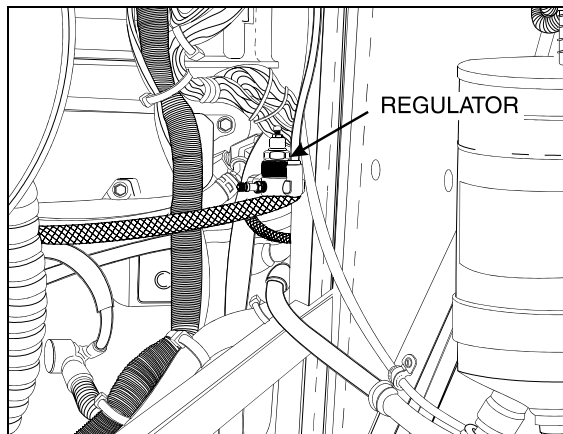

FIGURE 5: AIR PRESSURE REGULATOR 02003
- FIGURE 5: AIR PRESSURE REGULATOR.....02-4
The air pressure regulator is located in engine compartment and accessible through R.H. side door (Fig. 5). To adjust, remove dust cap from regulator, connect a pressure gauge to port.